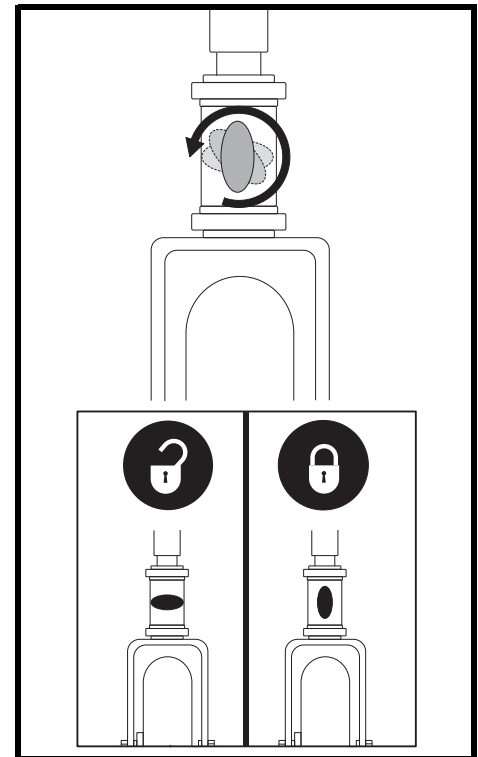

Figure 21. Tiller Lock Knob (Model 104 only)
1. Remove the key from the key switch. For model 104, lock the tiller in the straight ahead position by pushing the tiller lock knob in and turning it clockwise 90°. See figure 21. The front wheel must face forward in order to lock the tiller.